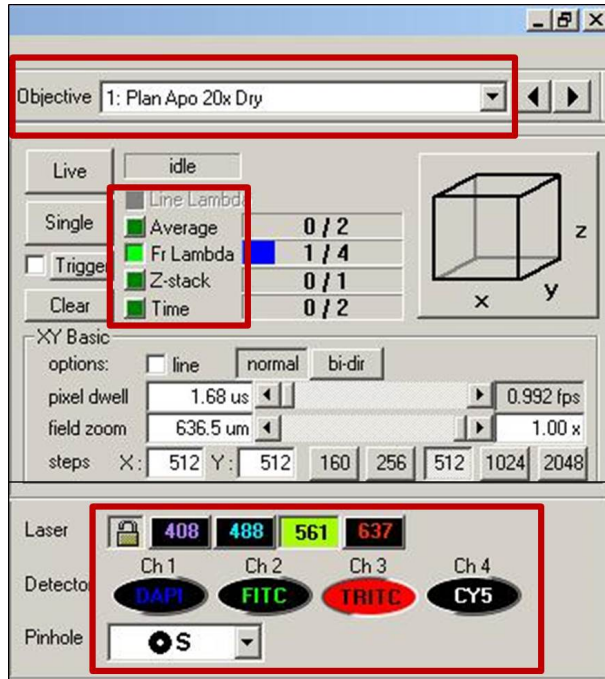

Figure 8: Objective selection, imaging parameters, laser and detector options.
5. Choose the objective you are using to image in the top right box (Figure 8 top). This is important to get the correct scaling.
6. Turn on and off the detectors and lasers that you want to use (Figure 8 bottom). Remember that they are 'on' when the background is colored, and the are 'off' when the background is black.
7. Set your pinhole (Figure 8 bottom). Typically the 30 μm (S) pinhole is acceptable. A larger pinhole allows more light at the sacrifice of resolution and vice versa.
8. Select all the imaging parameters wanted (Figure 8 middle). A selected box changes from dark green to bright green.